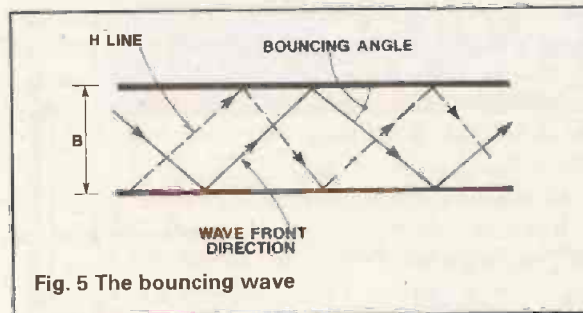

Fig. 5 The bouncing wave
2. The Boundary Law for H lines (Figure 5)
An e/m wave can travel down a waveguide without offending either of the two boundary laws by bouncing between the top and bottom walls as it travels. The E lines point into, or away, from the paper so to avoid unnecessary clutter, Figure 5 is showing only the relation between the H lines and the direction of travel.